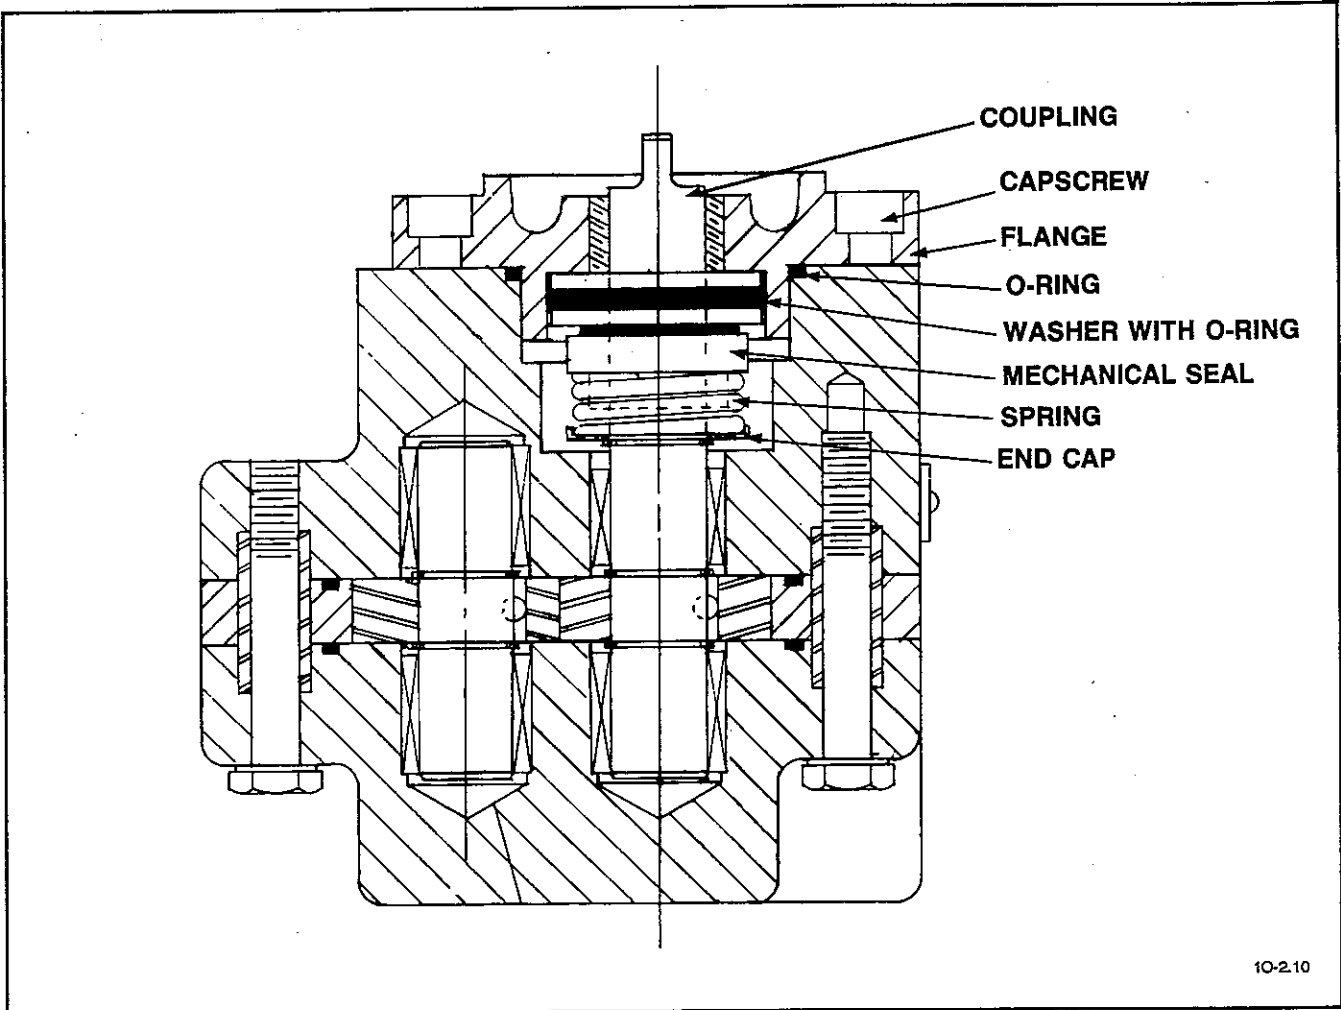

Figure B-1. Cross Section of the Gear Pump
5. Remove the mechanical seal from the gear pump as follows (see Figure B-1):
6. Install the new seals as follows (see Figure B-1):